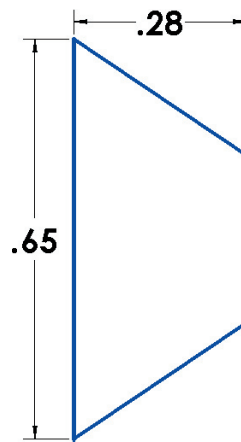

Fig. 24
Step 1. Click **Smart Dimension**  (S) on the Sketch toolbar.
Step 2. Dimension the left line **.65** and the top **.28** as shown in **Fig. 24**.